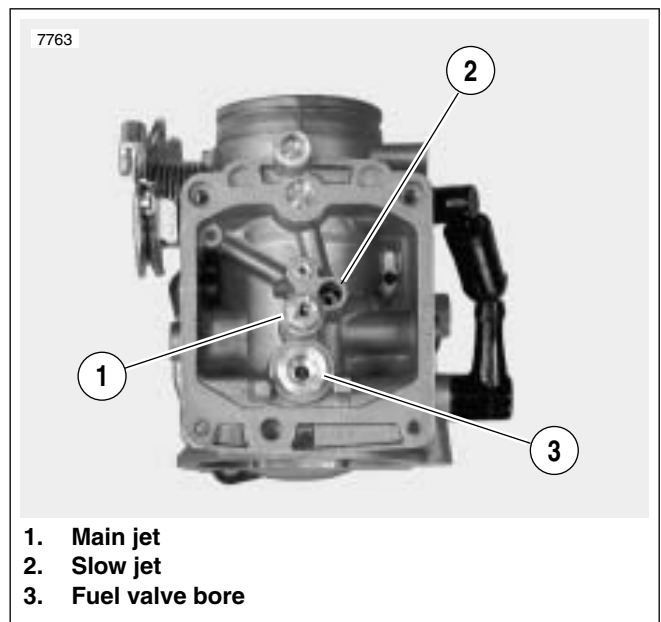

Figure 4-14. Carburetor Housing
4. See Figure 4-14. Using slot at top, turn main jet (1) with flat tip screwdriver to unthread from needle jet holder. If necessary, hold hex on needle jet holder with a 5/16 inch wrench to prevent rotation.
7. See Figure 4-14. Insert thin bladed flat tip screwdriver into slow jet bore, and using slot at top of slow jet (2), unthread to remove.
- 6. See Figure 4-14. Place float into cavity of carburetor inserting fuel valve into bore between pedestals.